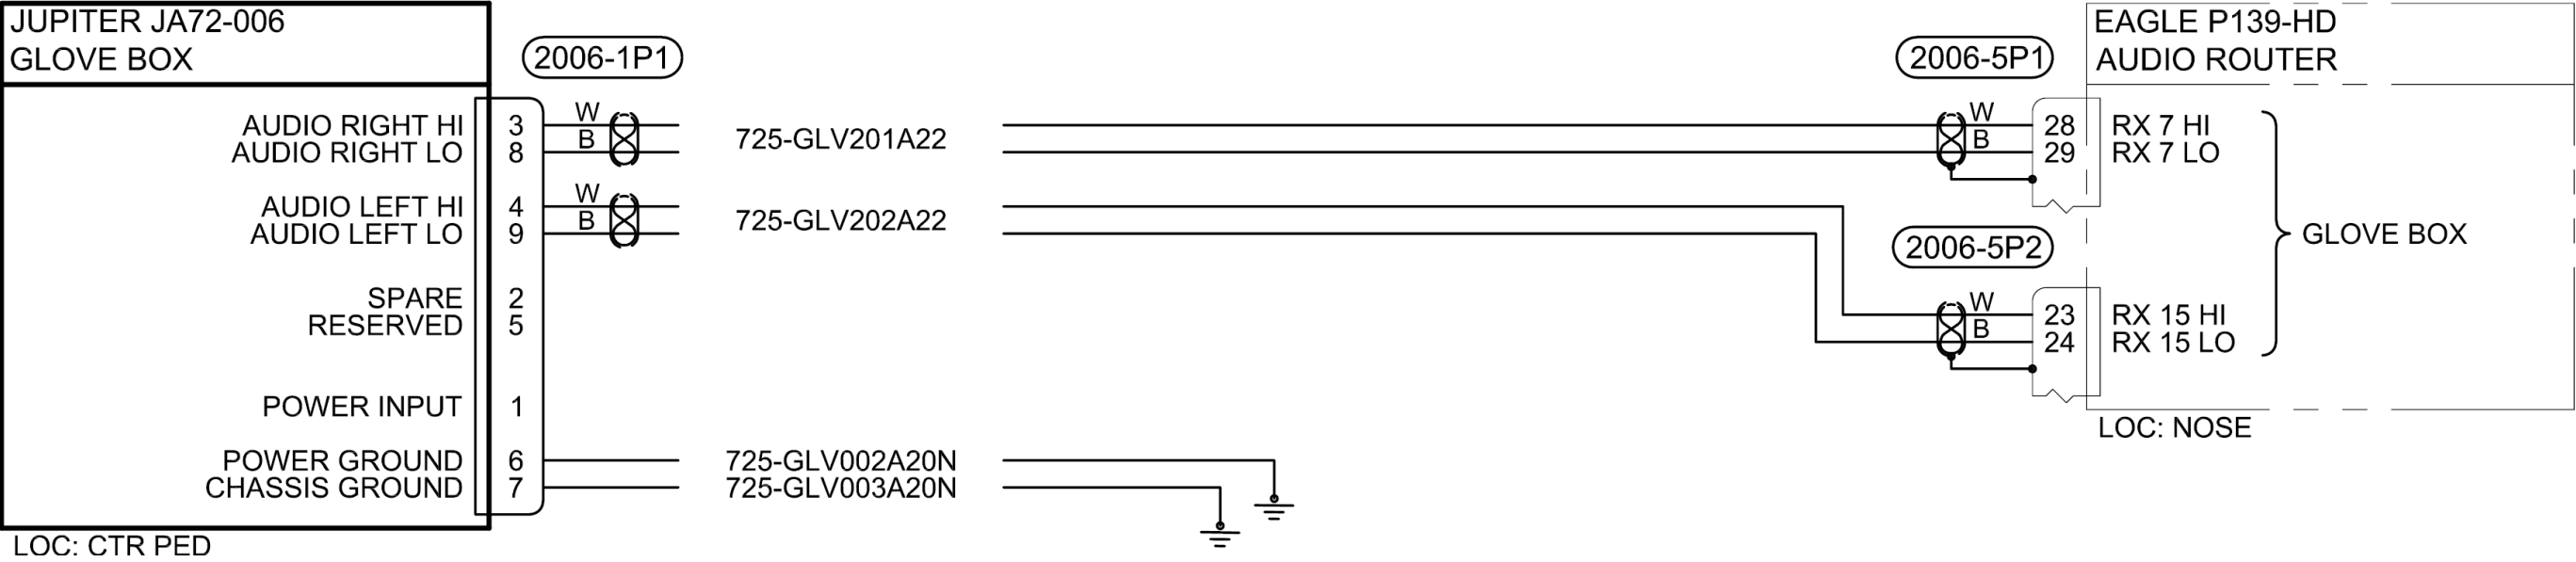
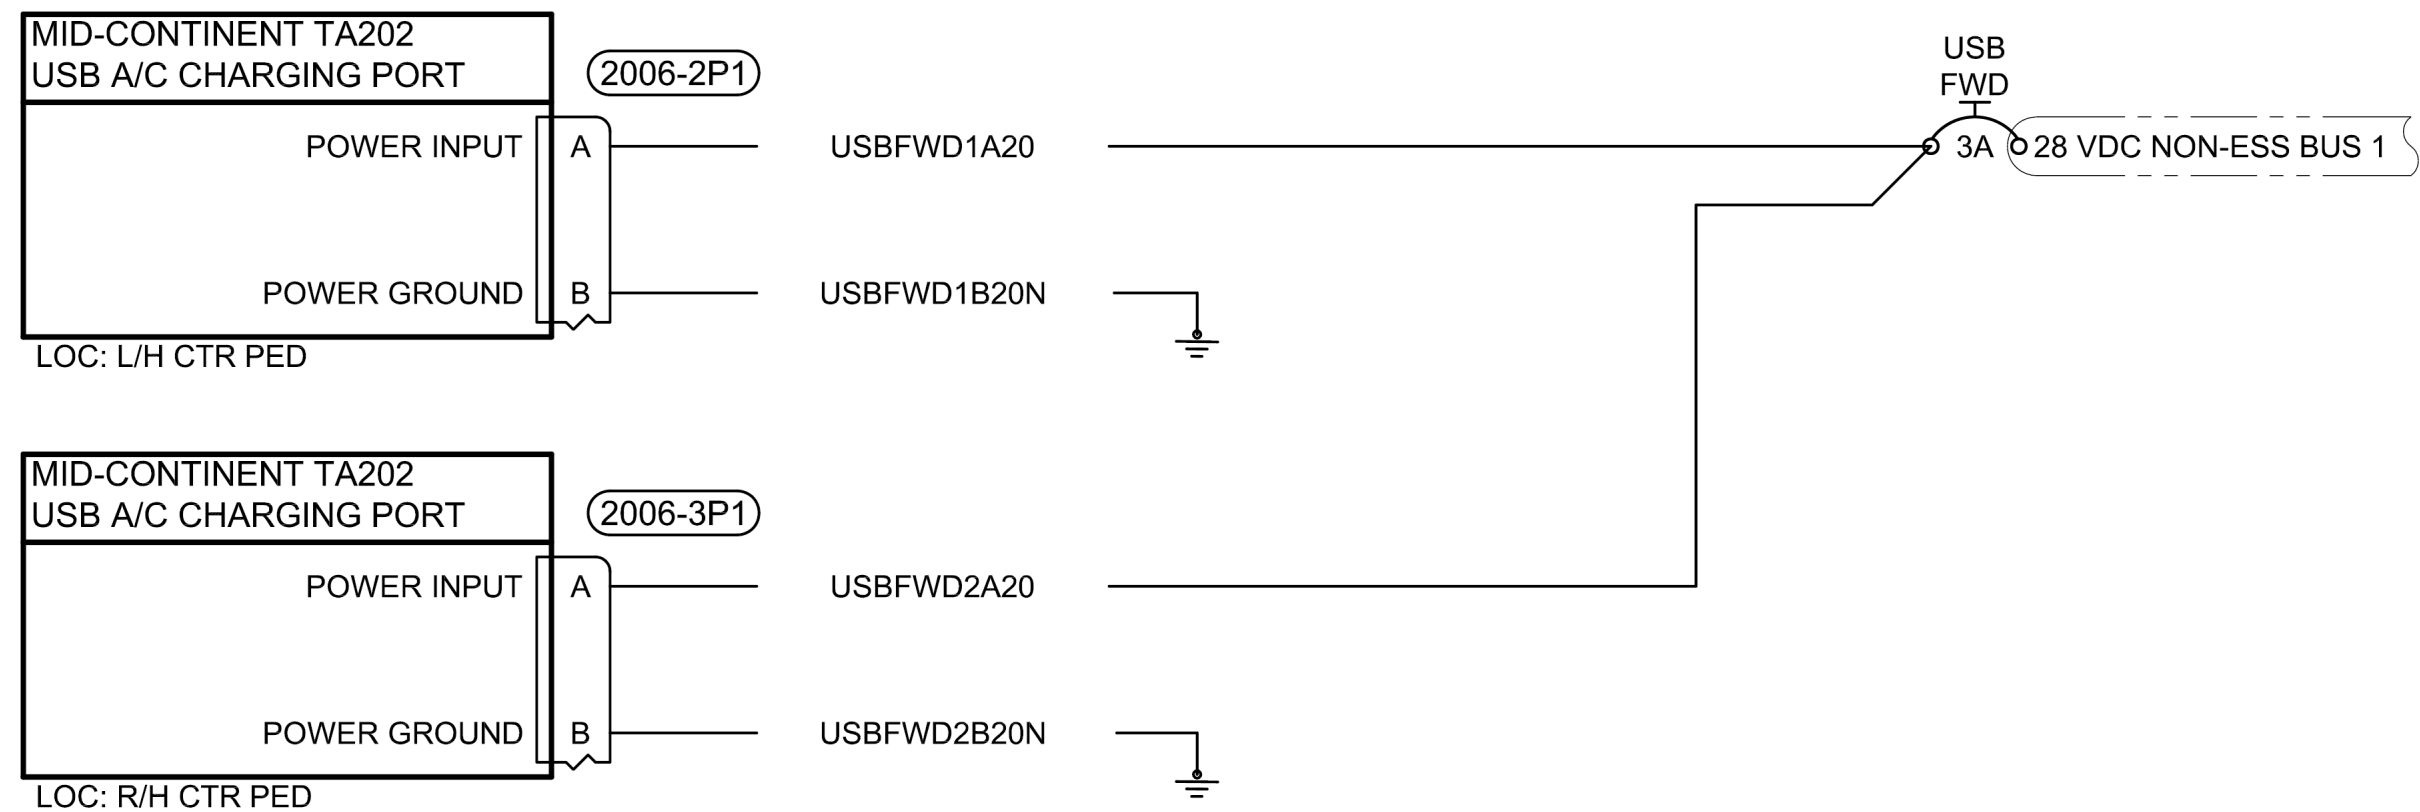

Figure 8 - Updated Glovebox Wiring Installation
Figure 9 - FWD USB Wiring Installation
4. Install the wiring in accordance with Figure 8 and Figure 9, as applicable.
4. Install USB wiring in accordance with Figure 9, as applicable.
- c. Ensure that all cables are properly secured, and shields are connected IAW Figure 8.